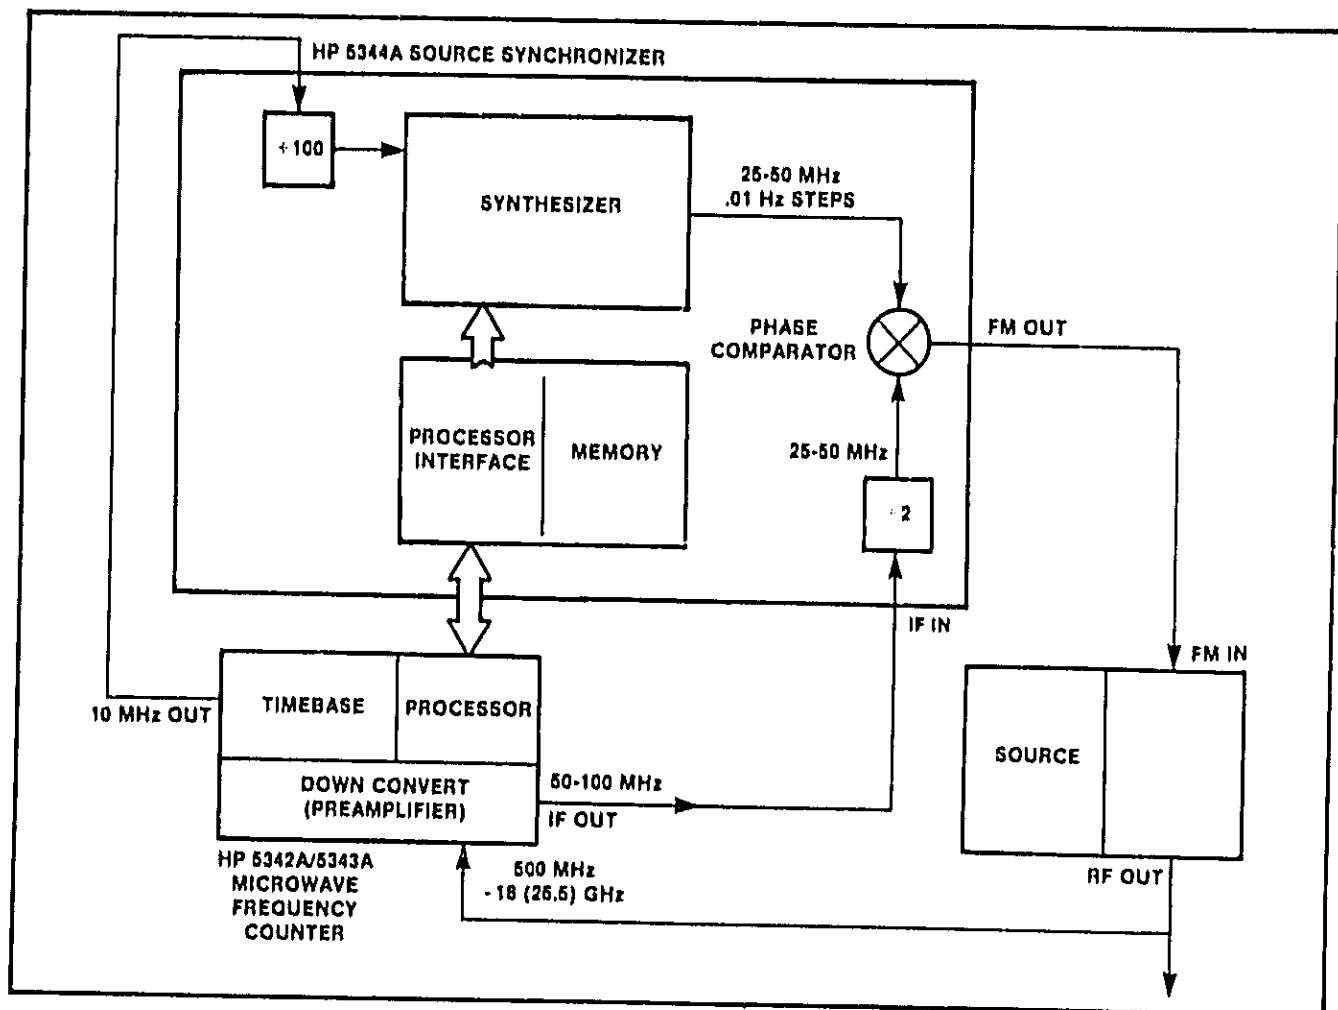

Figure 8-8. 5344S Simplified Block Diagram
8-30. Figure 8-8 is a simplified block diagram that shows the basic function of the 5344S. The RF output of the signal source is sent to the 5342A (or 5343A) where it is counted and down converted to an intermediate frequency (IF). The IF signal is supplied to the 5344A Source Synchronizer where it is divided by 2 and compared to a synthesizer generated signal which represents the source "lock" frequency. Any difference in phase between the two signals is applied to the source as an FM signal to correct for any difference from the desired phase, and lock the frequency in place.